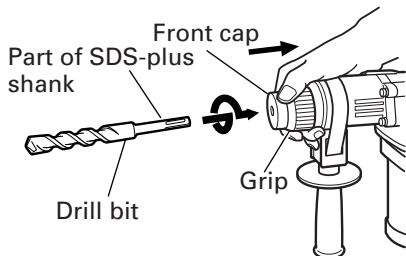
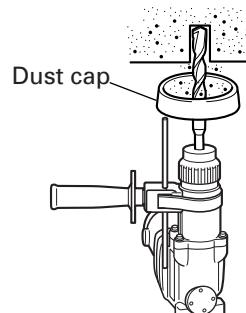
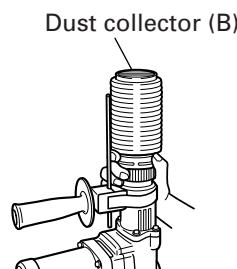

Fig. 2
Fig. 3
Fig. 4
## 6. Mounting the drill bit (Fig. 2)
- (1) To attach a drill bit (SDS-plus shank), fully pull the grip in the direction of the arrow as shown in Fig. 2 and insert the drill bit as far as it will go while manually turning.
- (2) By releasing the grip, the drill bit will be secured.
- (3) To remove the drill bit, fully pull the grip in the direction of the arrow and pull out the drill bit.
## 7. Installation of dust cup or dust collector (B) (Optional accessories) (Fig. 3, Fig. 4)
Use the dust cup by attaching to the drill bit as shown in Fig. 3.
When using dust collector (B), insert dust collector (B) from the tip of the bit by aligning it to the groove on the grip (Fig. 4)